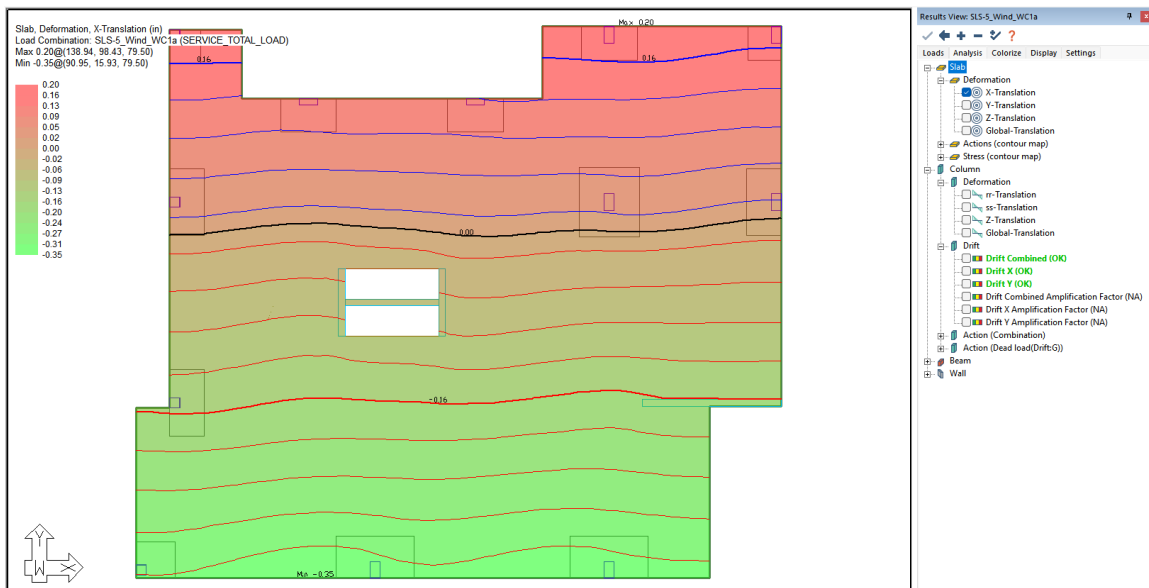

FIGURE 13-10
- Expand the *Slab* → *Deformation* tree and select the **X-Translation**, as shown in **FIGURE 13-10**.